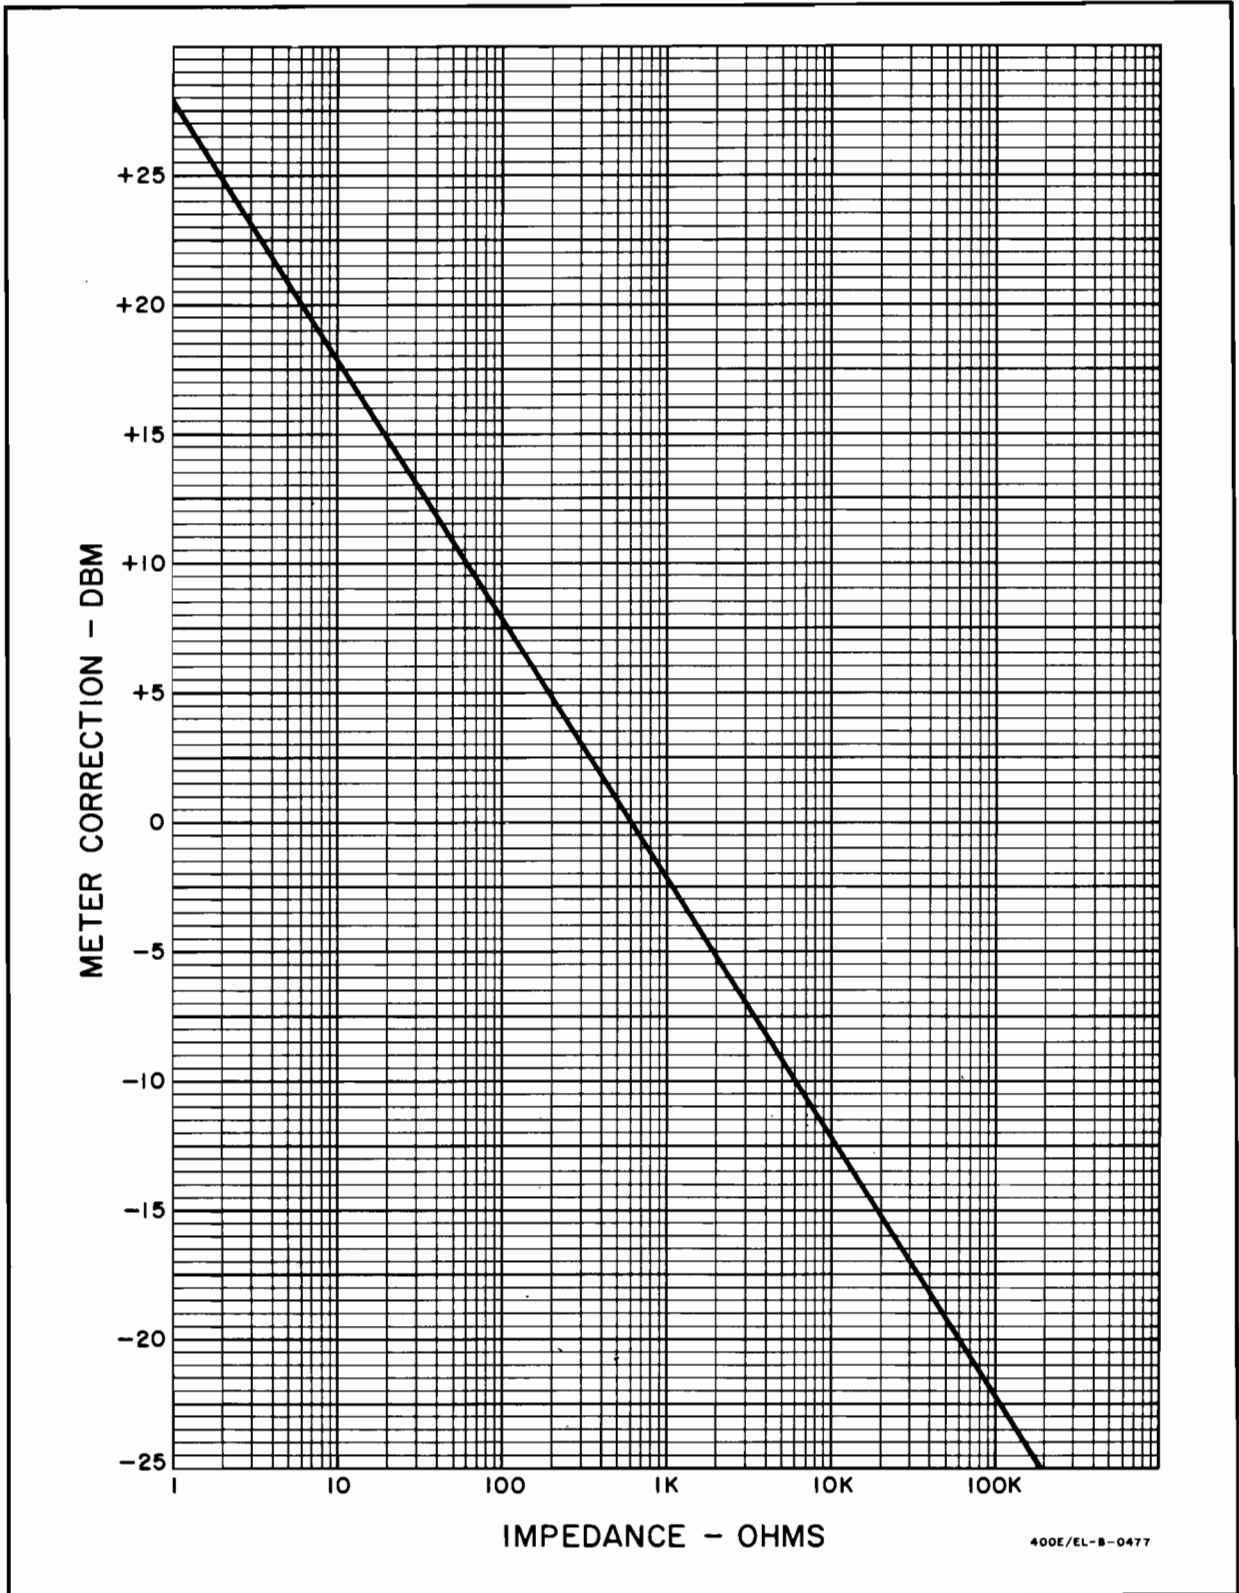

Figure 3-3. Impedance Correction Graph
- d. A reading in db may be converted to dbm by using the Impedance Correction Graph (Figure 3-3). For example: to convert a 40 db reading across 100 ohms to dbm, locate the 100 ohm load impedance on the bottom of the graph. Follow the impedance line to the heavy black line, and read the meter correction at that point. The correction for 100 ohms is 2.5 dbm, and the corrected reading is +42.5 dbm.